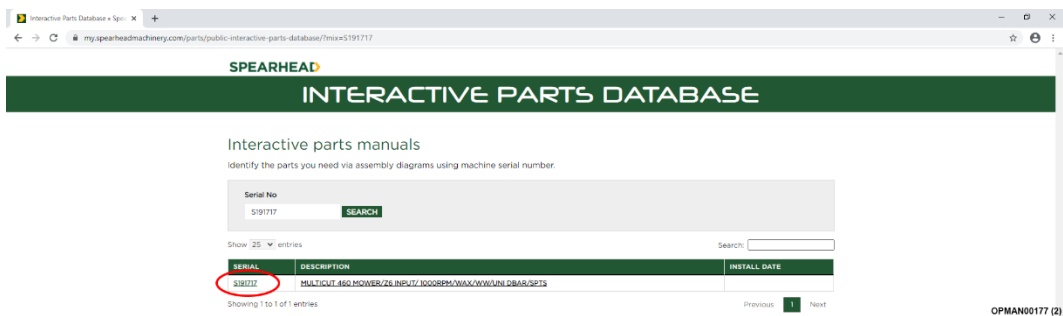

Figure 19 – Click On Serial Number
7.1.1.2 After entering the serial number a specification for the machine will appear. Click on the serial number; see Figure 19.